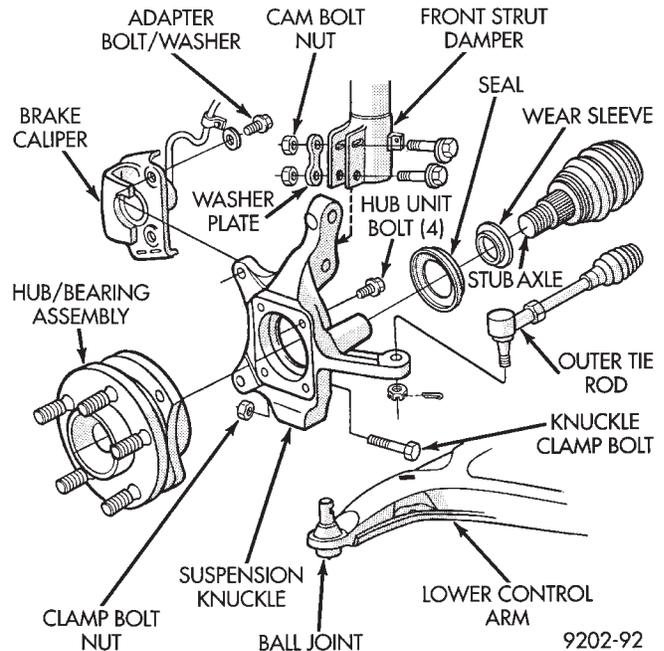
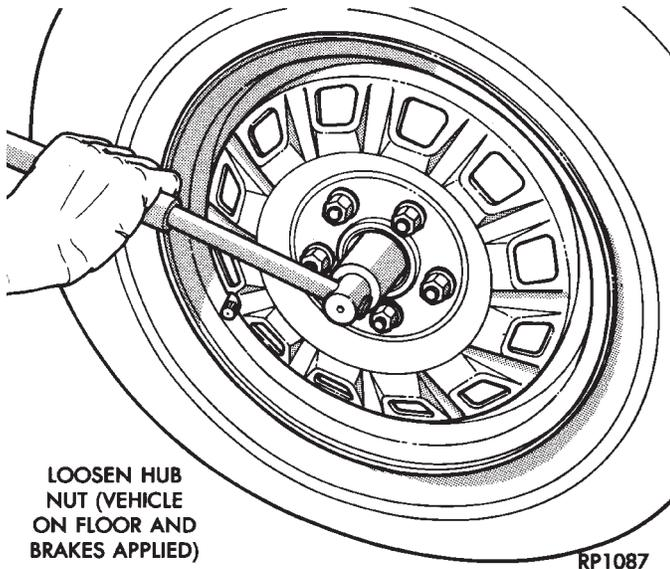

Fig. 1 Front Knuckle Assembly (Typical)
Fig. 3 Loosen Hub Nut
(2) Loosen hub nut while the vehicle is on the floor with the brakes applied (Fig. 3). **The hub and driveshaft are splined together through the knuckle (bearing) and retained by the hub nut.**
(3) Raise and support the vehicle. See Hoisting in Lubrication and Maintenance, Group 0.
(4) Remove the wheel lug nuts, front tire and wheel assembly and hub nut and washer.
(5) Remove the brake caliper adapter to steering knuckle attaching bolts and washers (Fig. 1). Remove the brake caliper and adapter from the steering